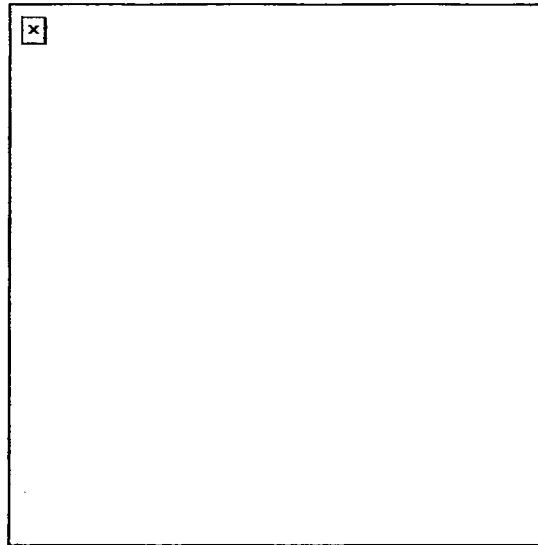

Figure 15. Receiver assembly.
- a. Clean the receiver assembly (Figure 15).